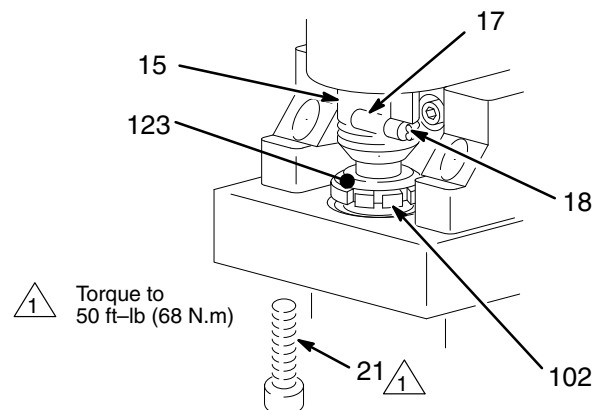

Fig. 18
- a. Remove the pump connecting rod pin (17). See Fig. 18, page 21.
11. **Break in the brushes.** Operate the sprayer for at least one hour with no load. Install the pump connecting rod pin. See Fig. 18, page 21.
Be sure the retaining spring (18) is firmly in the groove all the way around, to prevent the pin (17) from working loose due to vibration. See Fig. 18.